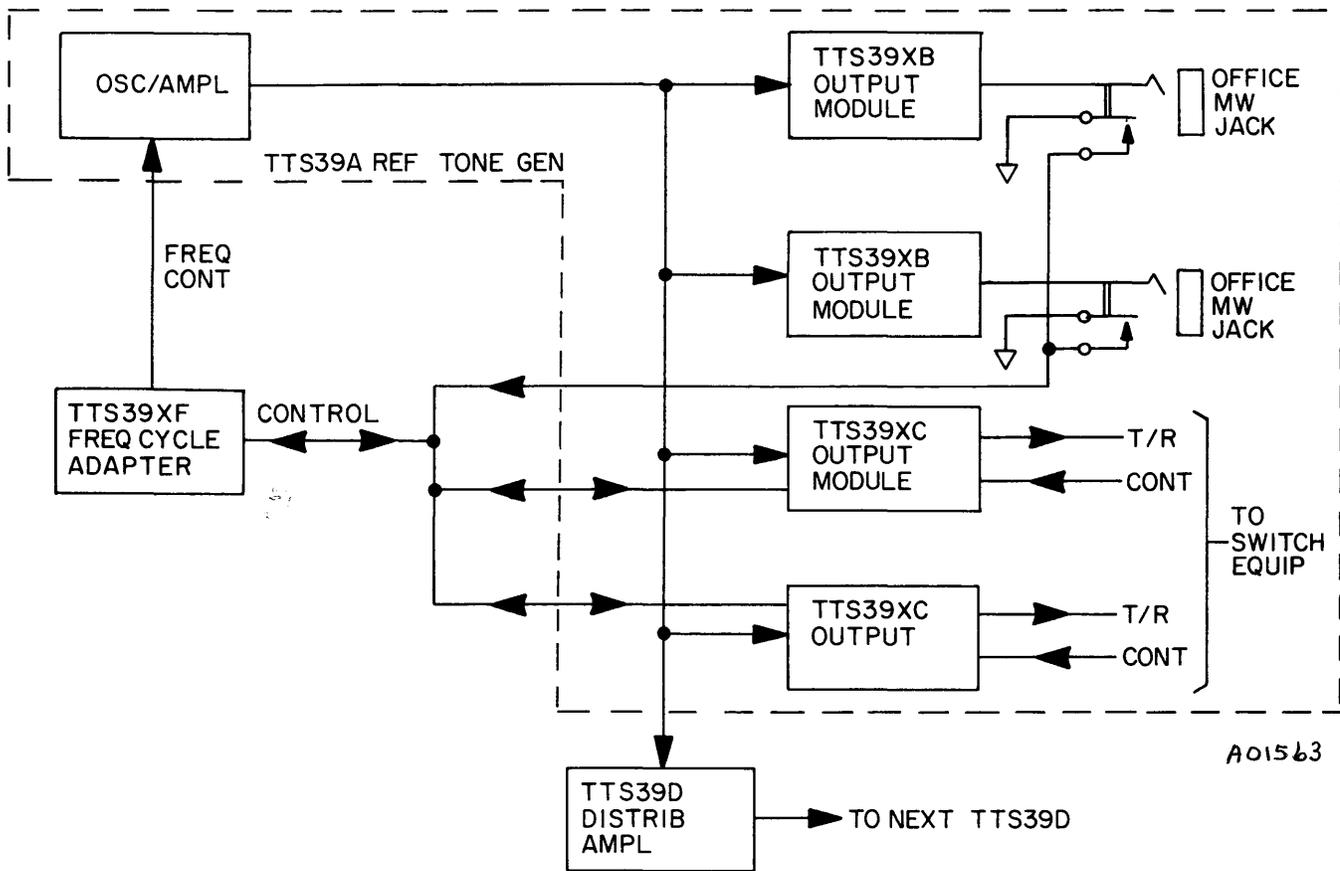

Figure 1-1. Typical TTS 39 Series Office Milliwatt/Test Line System Block Diagram.
1.4 As shown on Figure 1-1, both office milliwatt sources and dialable test lines can be simultaneously accommodated by using a single TTS 39A Reference Tone Generator and the appropriate output modules. One TTS 39A can directly drive up to four mixed output modules. Additional output modules can be used by connecting TTS 39D Distribution Amplifiers in tandem.